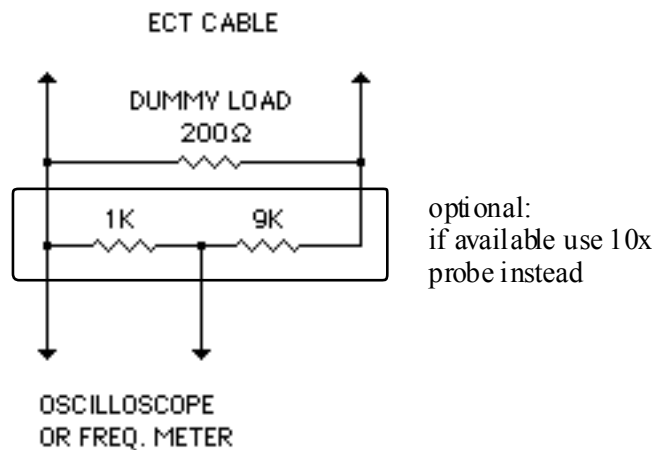

fig. 3.2
- 3.2 Connect Oscilloscope across the dummy load. Be sure the scope can measure up to 500 volts. If not, construct a high impedance divider such as in fig. 3.2.
Connect a frequency counter to the dummy load divider as in fig. 3.2. Set up proper triggering. Make sure the overshoot does not double trigger the counter. Set the counter to period measure. Set PERCENT ENERGY dial to 100% and press TREAT button. The reading should be 14.28 msec  $\pm 5\%$  which corresponds to 70 Hz. Set PERCENT ENERGY dial to 50% and press TREAT button. The reading should be 25.00 msec  $\pm 5\%$  which corresponds to 40 Hz. Set PERCENT ENERGY dial to 20% and press TREAT button. The reading should be 50.0 msec  $\pm 5\%$  which corresponds to 20 Hz.